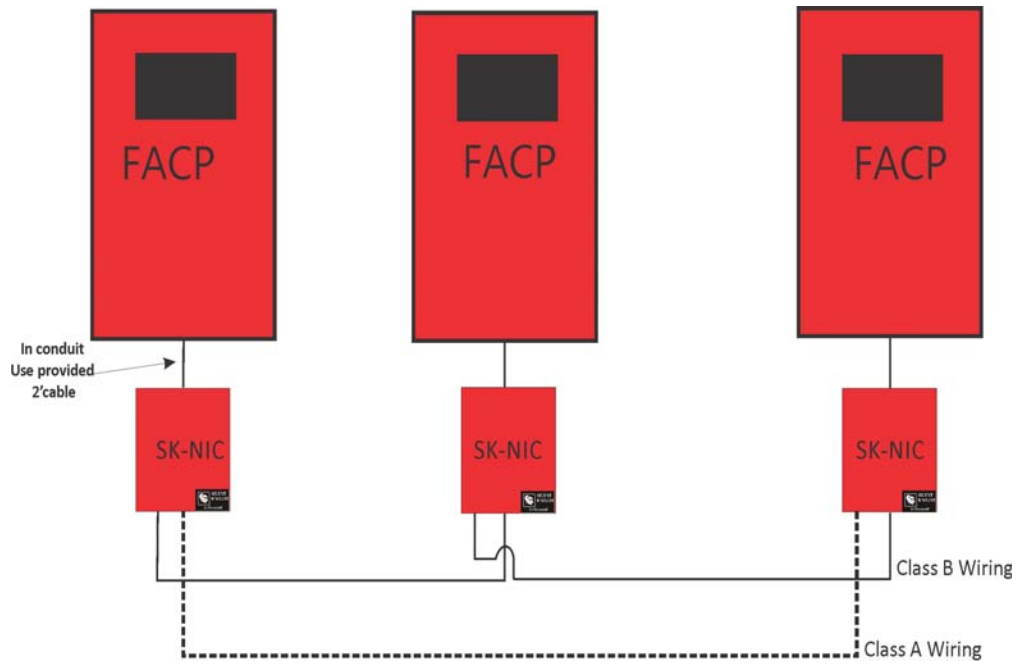

Figure 5-1 EXTERNAL SK-NIC Wiring Option
When linking a group of 6700 you must use the SK-NIC to link the panels together. See Figure 5-1 for external mounting of SK-NIC option.
2. Use the 6-pin cable included with SK-NIC to connect the 6700 to the SK-NIC. The 6-pin cable must be run in conduit. See Figure 5-1.